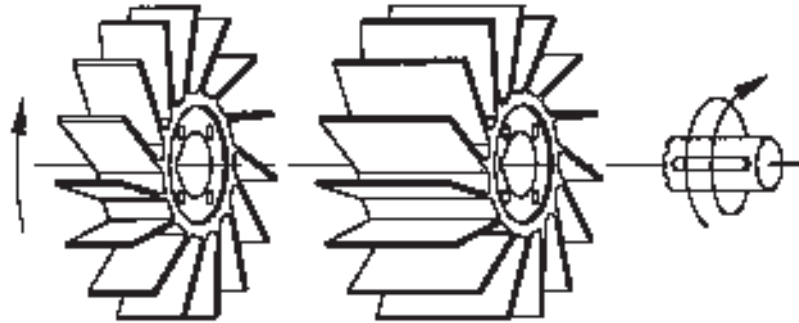

Figure 24 - Pumps series TRH
- Position the pump vertically resting on the bearing housing. Fit on the shaft the key VDMA 940.1 (.2) of the impeller VDMA 230(.1), depending upon the pump type. Introduce the impeller on the shaft making sure that the orientation of the impeller blades is as indicated in schematics figure 24 or 25 for pumps with C.W. rotation. For special pumps, with C.C.W. rotation, the impeller must be mounted with the blades pointing to the left side.
WARNING: Before inserting the impellers on the shaft, note that the direction of the blades for the pumps with clockwise rotation should be as per drawings on figure 24 or 25 (for the counter clockwise rotation, reverse the orientation of the impeller blades).